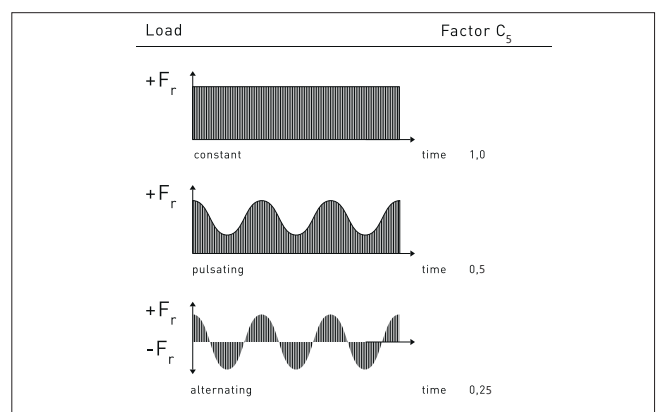

Fig.1
- $C_5$  Factor for type of load, see Fig.1